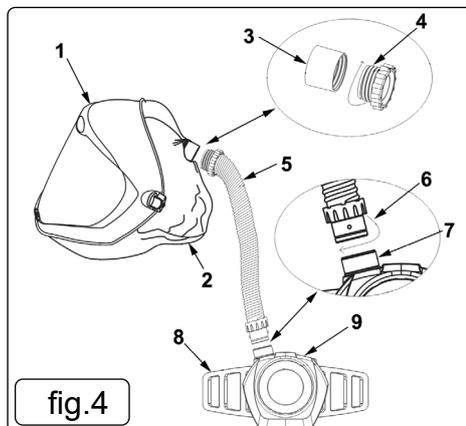

fig.4
4.6.1. Insert hose assembly connector, SSP80PAPR.H06, (fig 4 - 6) into blower body connector outlet, SSP80PAPR.H07, (fig 4 - 7) until snug and then turn 1/8 turn clockwise to lock the hose assembly, SSP80PAPR.H05, (fig 4 - 5) into place.
4.7.1. Thread the hose assembly connector, SSP80PAPR.H04, (fig 4 - 4) into the face hood connection, SSP80PAPR.H03, (fig 4 - 3) and turn clockwise until the hose assembly, SSP80PAPR.H05, (fig 4 - 5) locks into position.
4.8.1. Disconnect the hose assembly, SSP80PAPR.H05, (fig 4 - 5) from face hood, SSP80PAPR.H02, (fig 4 - 2).
- 4.11.1. Disconnect hose assembly, SSP80PAPR.H05, (fig 4 - 5) from face hood, SSP80PAPR.H04, (fig 4 - 2).